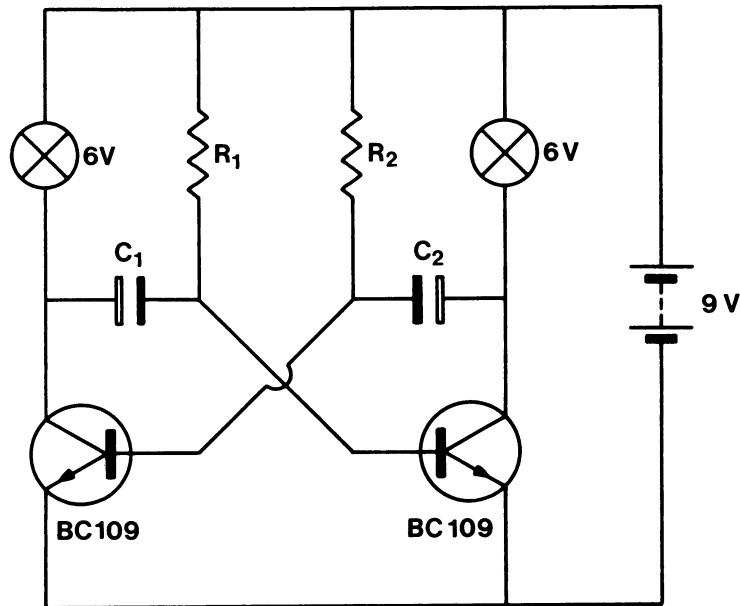

FIG. 1.33
1. If the bistable circuit of Circuit 12 is modified to include the resistors  $R_1$  and  $R_2$  and capacitors  $C_1$  and  $C_2$  as shown in Fig. 1.33, a very useful circuit is obtained. This is known as the *multivibrator*. Build the multivibrator circuit shown above and design the layout of this in such a way that resistors  $R_1$  and  $R_2$  can be chosen to be either  $1\text{ k}\Omega$  or  $10\text{ k}\Omega$  and capacitors  $C_1$  and  $C_2$ ,  $250\text{ }\mu\text{F}$  (25 V) or  $50\text{ }\mu\text{F}$  (25 V). When the circuit is working it should be found that the bulbs switch on and off alternately at a regular rate and when the values of  $R$  or  $C$  are changed the flashing rate also changes.